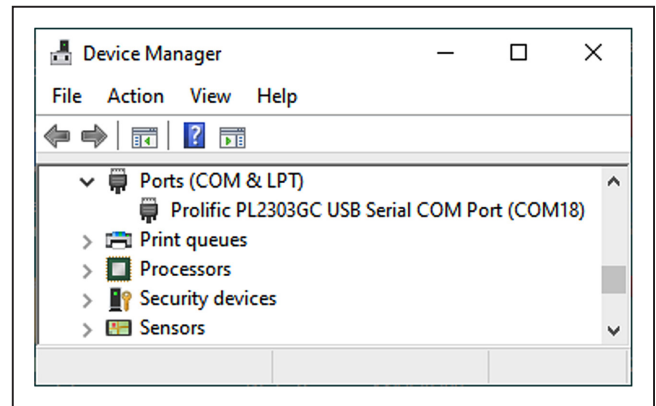

Figure 1. MAX66301 EV kit Virtual COM Port
- 4) The MAX66301 EV kit uses both the Prolific PL-2303 and a MAXQ610 microcontroller to provide SPI or UART connectivity to the MAX66301 device. Verify the correct installation of the virtual COM port by selecting **Control Panel**→**System**→**Hardware**→**Device Manager** and expanding the **Ports (COM & LPT)**. If the driver is installed properly, the Port lists as in Figure 1. Note that your COM port number can be different.